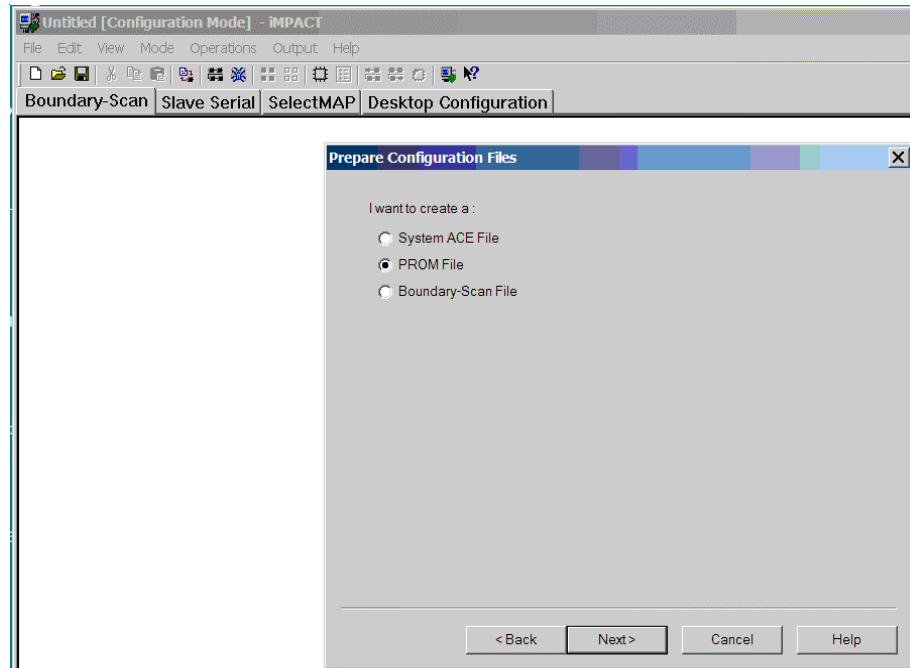

Figure B-2: Selecting PROM File
2. Click on Next and select PROM File in the Prepare Configuration Files option menu shown in Figure B-2.